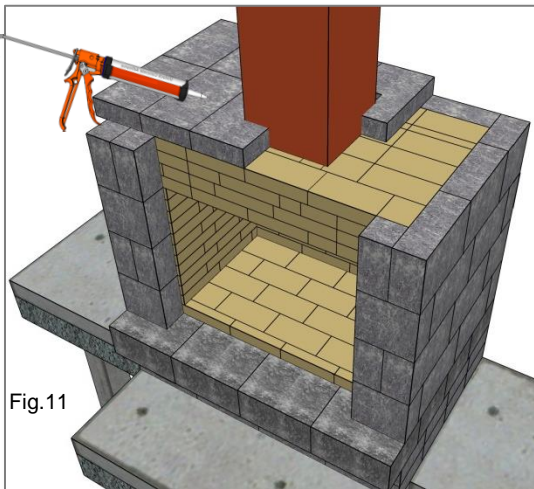

Fig.11
**Note:** Use Concrete Adhesive to secure the mantel units. (Fig.11)